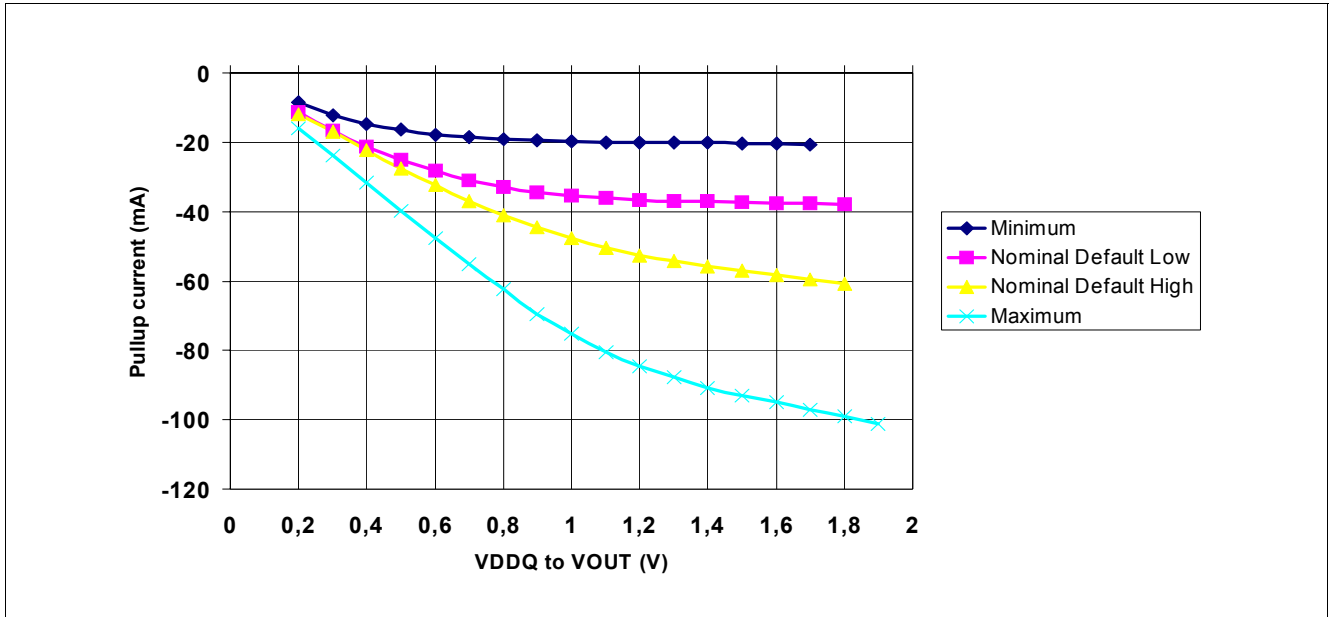
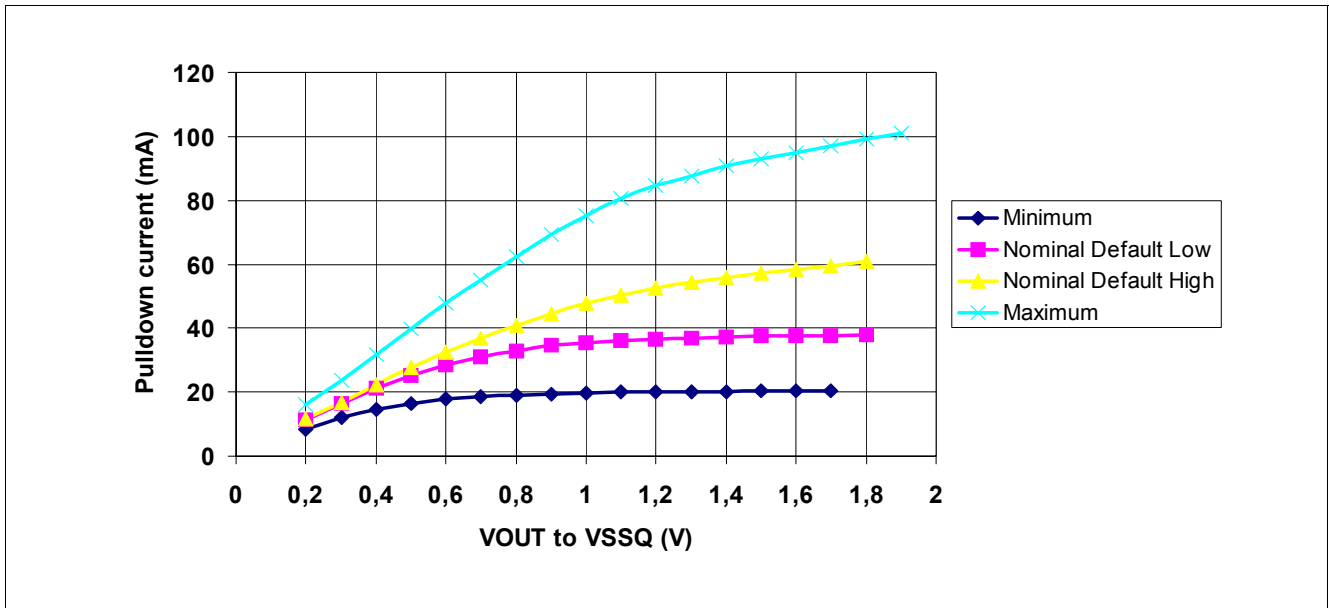

Figure 65 Full Strength Default Pull-up Driver Diagram
Figure 66 Full Strength Default Pull-down Driver Diagram
DDR2 SDRAM output driver characteristics are defined for full strength default operation as selected by the EMRS(1) bits A[9:7] = '111'. **Figure 65** and **Figure 66** show the driver characteristics graphically and the tables show the same data suitable for input into simulation tools.